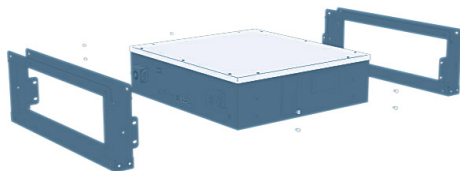
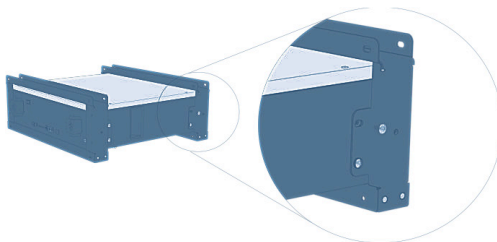

Figure 3-3
Figure 3-4
1. LVR Syntero Series brackets The LVR Syntero Series bracket is shown before installation as shown in Figure 3-3.
2. Place the LVR Syntero Series and brackets as shown in the figure3-3, and insert the LVR Syntero Series into the brackets. Each bracket is connecte to the module by four screws, two screws on one side. As shown in Figure 3-4.